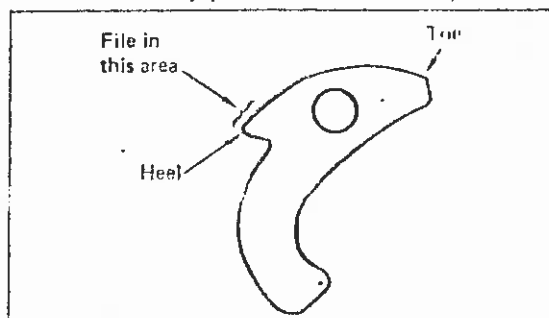

Figure 1
3. Use finger pressure to push inward on the toe (see figure 1) of each flyweight so that the flyweight heel protrudes outward.
4. Using a fine # 1, double cut, 1/2 inch wide file, at least 3/32 inch thick, pass the file across the heel of the flyweight attempting to remove material. (See figure 1). If the flyweight has been properly heat treated the file will "glide" smoothly over the heel of the flyweight, removing no material. If the flyweight is not properly heat treated (soft), the file will not "glide" easily across the surface of the flyweight heel, and material will be removed.